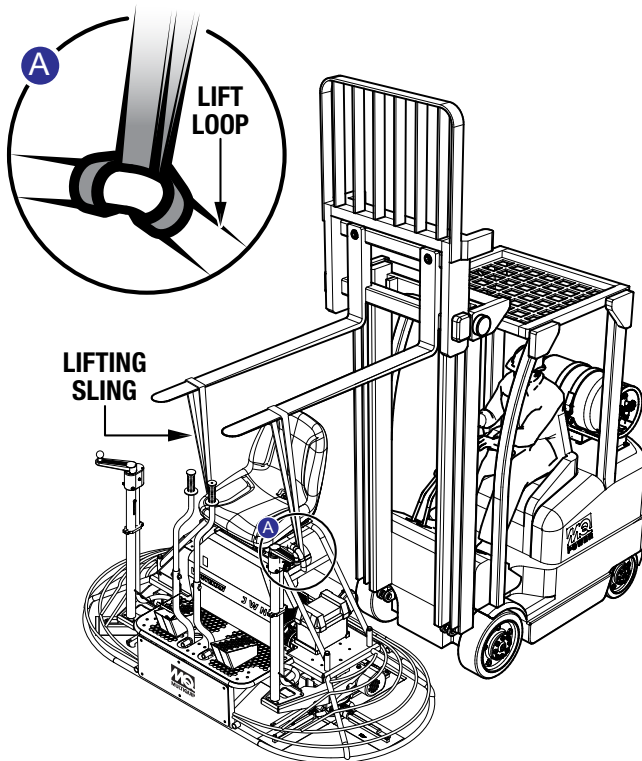
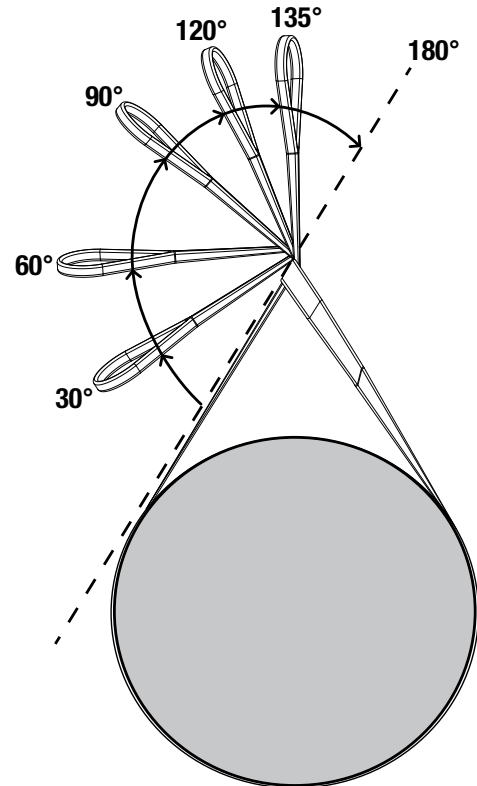

Figure 2. Lifting the Trowel
Figure 3. Choke Angle
1. Secure the two lifting slings to the lift loops located on the left and right side of the trowel (Figure 2).
2. Insert forklift forks through the loops at the ends of the lifting slings (Figure 2). Keep the slings as close to vertical as possible. If the choke angle (Figure 3) is 120 degrees or less, the lifting strength of the slings must be de-rated as shown in Table 1, in accordance with ASME Standard B30.9.